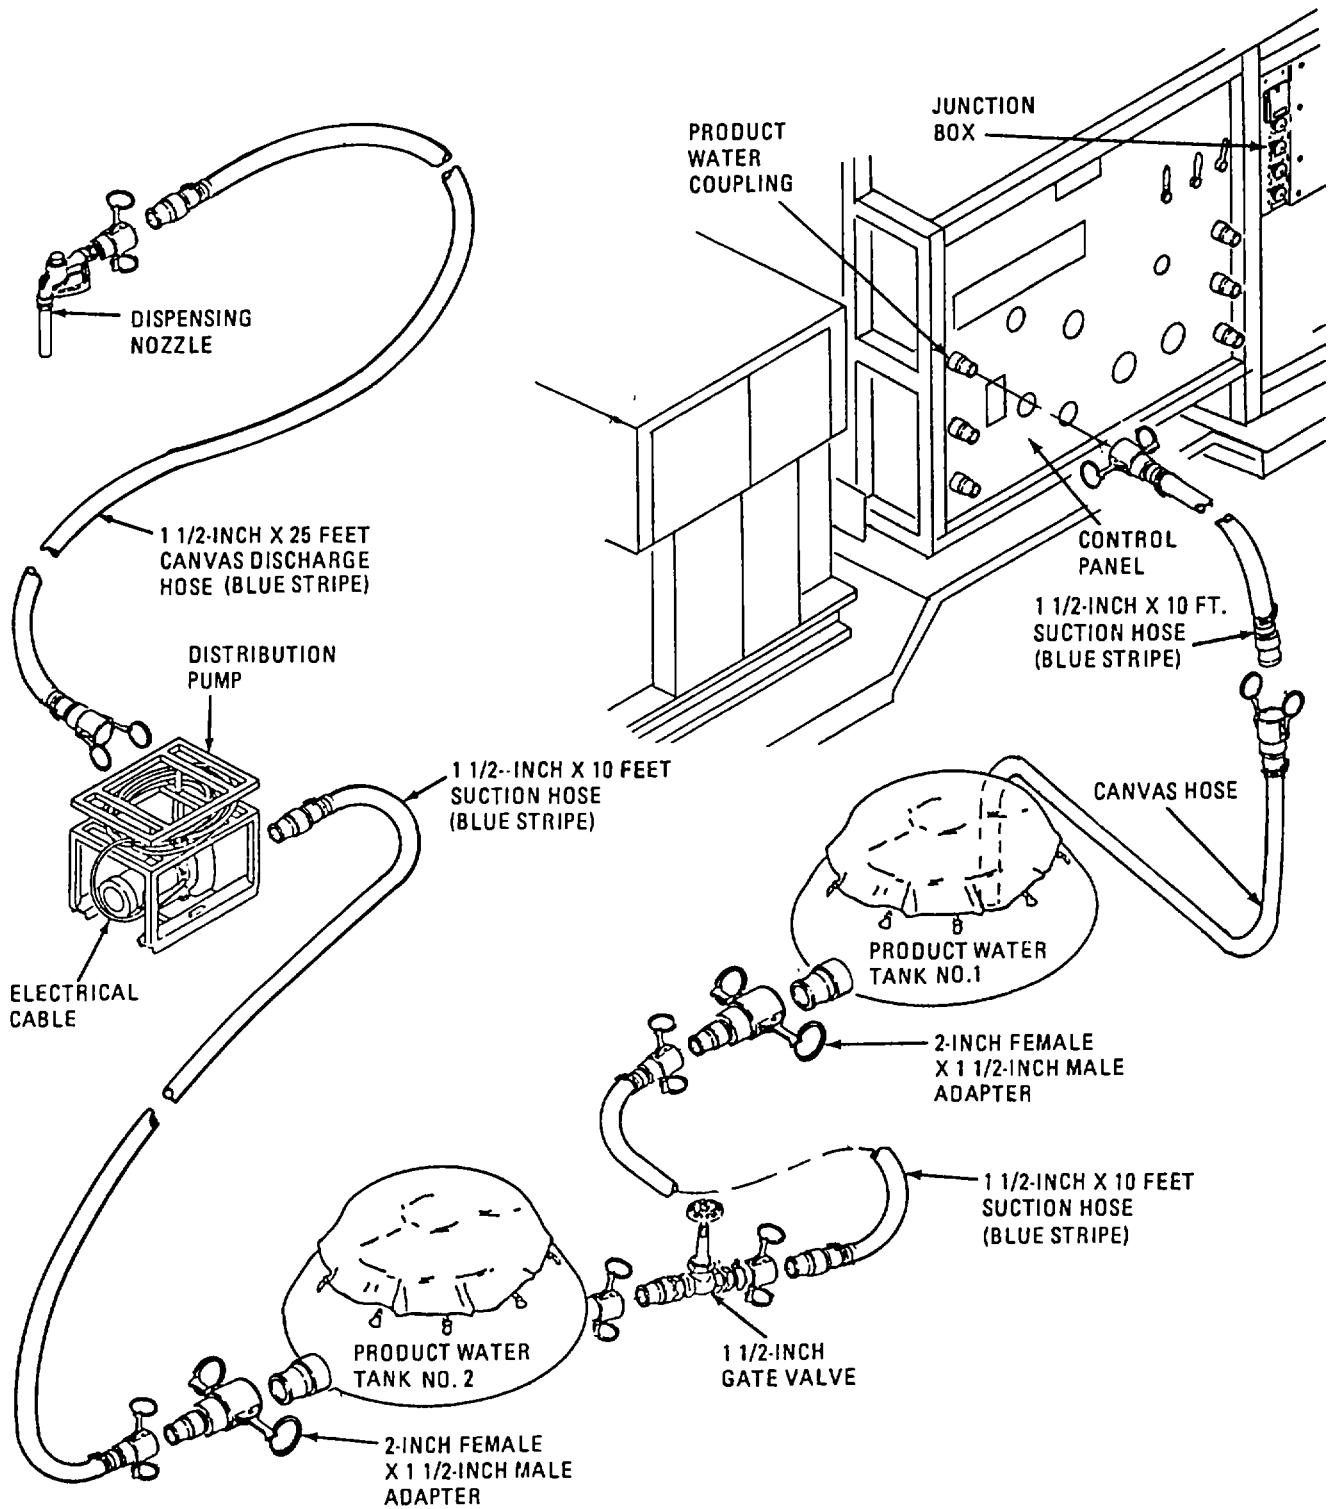

Figure 2-38. Product Water System Setup.
- q Setup Product Water System. Refer to figure 2-38. Working from the ROWPU control panel to product water dispensing point, connect components of the product water system as follows: